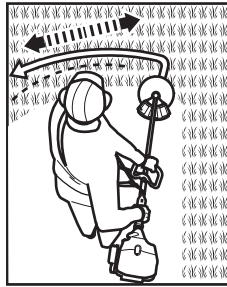

Fig. 26
6. Move the product with slow and regular arc from left to right before moving it back to the starting position before trimming the next area. (See Fig. 26)